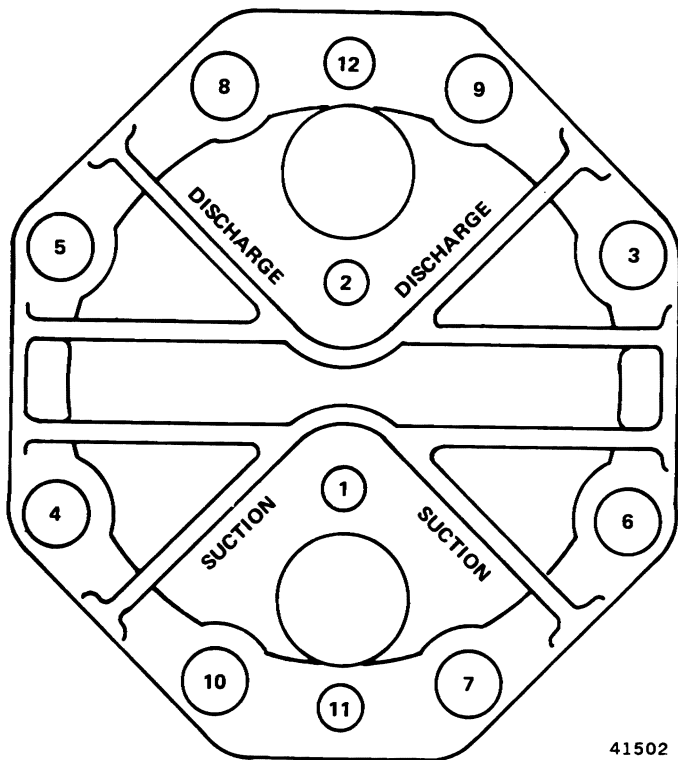

Fig. 17 Compressor Head Attaching Screw Tightening Sequence
(11) Install replacement head gasket. Be sure gasket is positioned on locating dowel pins.
(12) Install compressor head.
(13) Install and tighten compressor head attaching screws to 15 foot-pounds (20 N•m) torque and in sequence outlined in Figure 17 only.
(14) Coat service valve ports with light film of refrigeration oil and install replacement service or Schrader valve gaskets.
(15) Install service or Schrader valves.
(16) If compressor is equipped with Schrader valves, evacuate system—charge system—perform leak test and recharge as necessary.
(17) Install compressor, if removed.